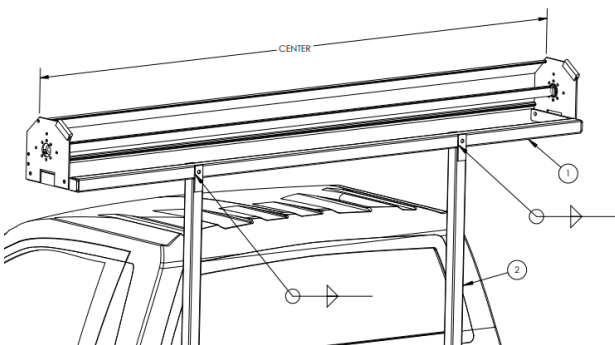

Figure 2.7
The US Tarp housing will come assembled on the spreader bar of the gantry frame. Carefully place the spreader bar assembly (1) on top of the legs (2). Center the assembly widthwise (do not include the motor in this measurement, if included). (Figure 2.7)